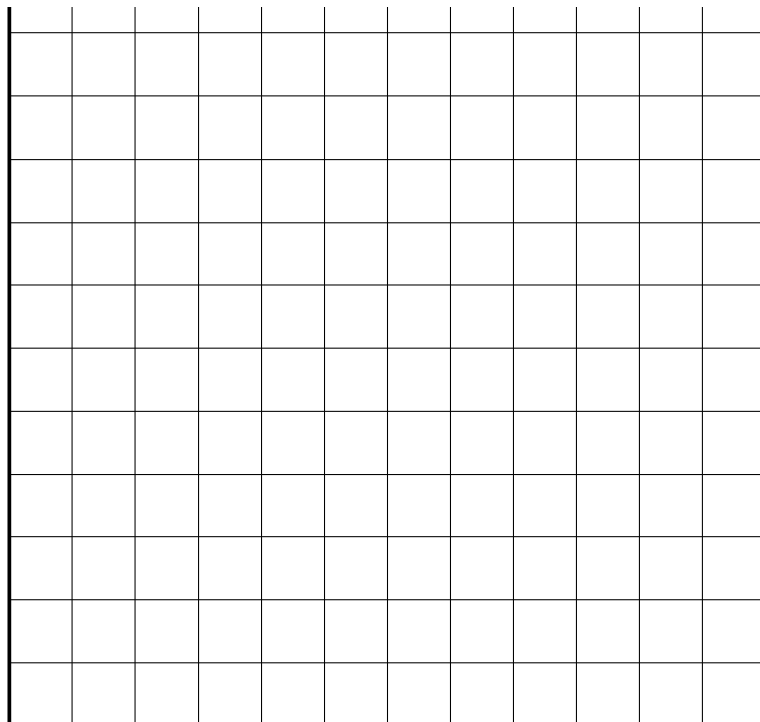

Fig. 7.2.5: Power hyperbola, 2 W
- In a voltage – current graph (Fig. 7.2.5), all points corresponding to a power of 2 W are to be plotted to produce a graph ('power hyperbola'). Using the voltage values given in table 7.2.4 and a constant power of  $P = 2\text{ W}$ , calculate the current flow at each value of voltage. Which formulae should be used?
- Plot the values of U and I in the chart (Fig. 7.2.5) and join the plotted points to produce the power hyperbola for a 2 W resistor.
A power hyperbola graph can be used to determine the maximum permissible voltage drop at a 2 W resistor. First, the characteristic  $I = f(U)$  of the relevant resistor, must be drawn in the graph Fig. 7.2.5. The intersecting point of the resistance characteristic and the hyperbola corresponds to the maximum voltage and also shows the value of current flow.
- Draw the resistance characteristic  $I = f(U)$  for the  $22 \Omega$  resistor in the graph (Fig. 7.2.5), using 2 voltage values.
- What is the maximum value of voltage that may exist across the  $22 \Omega$  resistor on the Electronic Circuits Board, so that the maximum power dissipation ( $P_V = 2 \text{ W}$ ) of the component is not exceeded? Determine this value and the current flowing, from the graph in Fig. 7.2.5.